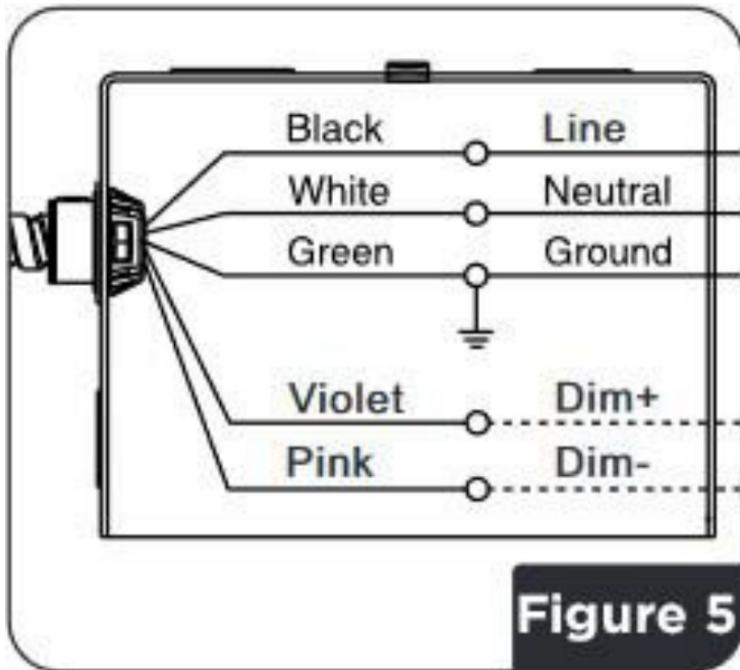

Figure 5
7. Connect the driver whip with five-conductors to the junction box (supplied by others), connecting the black wire to the line, the white wire to the neutral, and the green wire to ground (**Figure 5**).